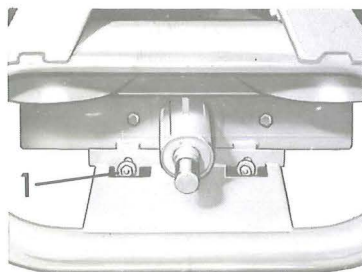
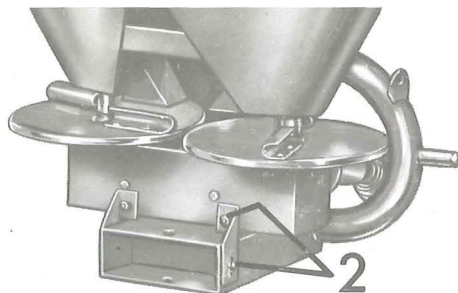

Fig. 13
Fig. 14
- Loosen two front fastening bolts (see Fig. 13/1) and unscrew rear gearbox bracket (see Fig. 14/2). Take off gear box.